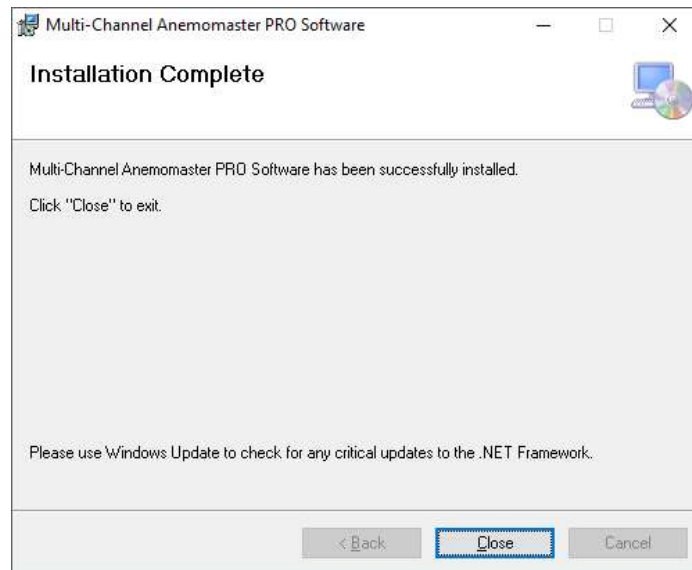

Figure 2-5 Installation Complete Screen
5) When the installation is complete, Figure 2-5 will be displayed.